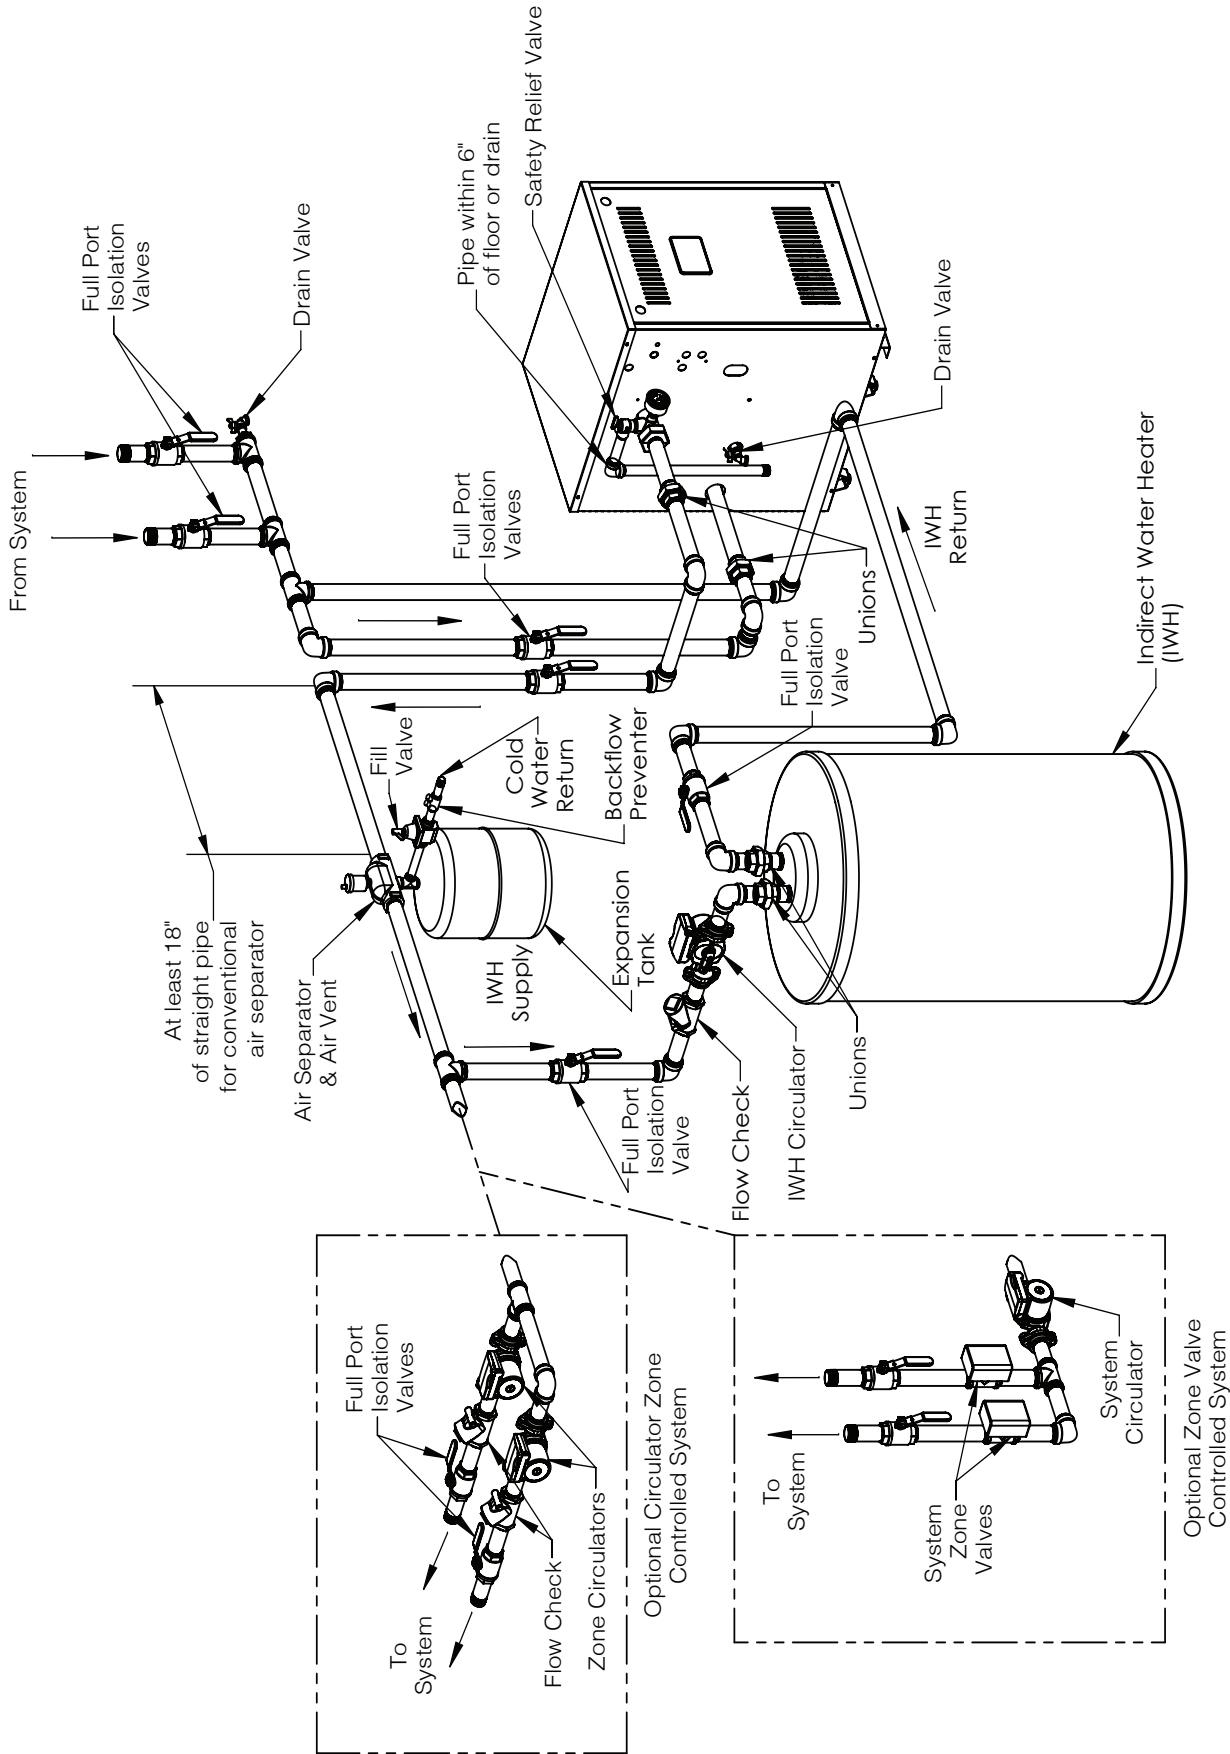

Figure 6-2: Recommended Water Piping for Direct Connection System
4. Attach hose to drain valve located on return piping (see Figure 6-2 and 6-3). Note-Terminate hose in five gallon bucket, at a suitable floor drain, or outdoor area).